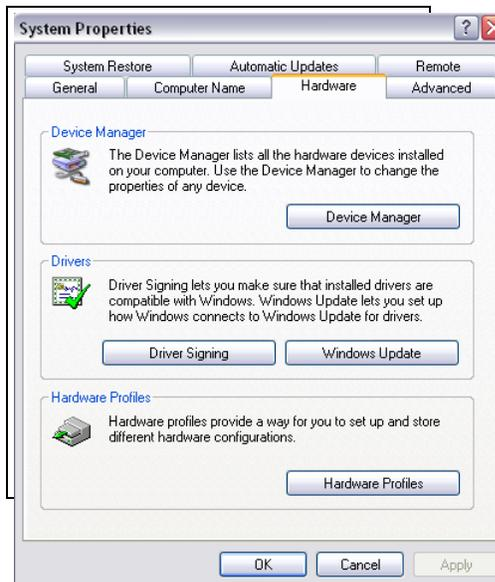

Figure 5-1: USB-B Male Connector and P40N^{PLUS} USB Port
4. Connect the USB cable from your PC to the port: using a USA-A Male to USB-B Male cable, attach the USB-A connector to the PC and attach the USB-B connector to the P40N^{PLUS} USB port. See Figure 5.1.